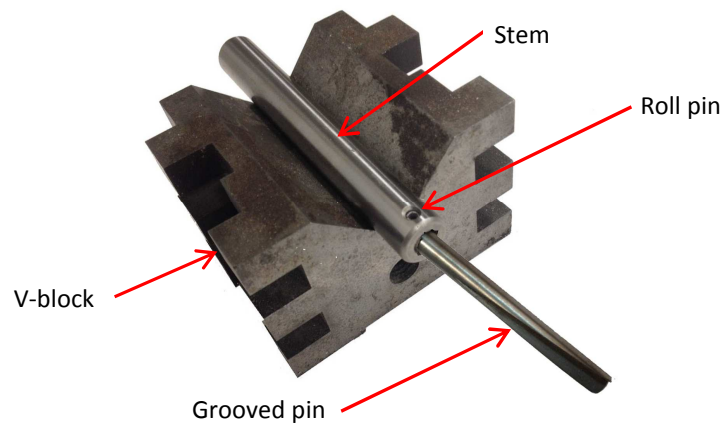

Figure 2: Disassembly of Oil Modulating Cam Assembly
2. Close all necessary valves to isolate the fuel oil controller. Detach the oil modulating cam assembly and any additional linkage currently hooked up to the fuel oil controller. Pull out the stem that moves in and out of the controller. The grooved pin connected to the end of the stem must be re-used in this assembly. Using the pin punch, V-block, and hammer, knock the roll pin out of the stem to detach the grooved pin as shown in Figure 2. Take care not to damage or mar the surface of the grooved pin. All other components of the cam assembly including the stem are not re-used.